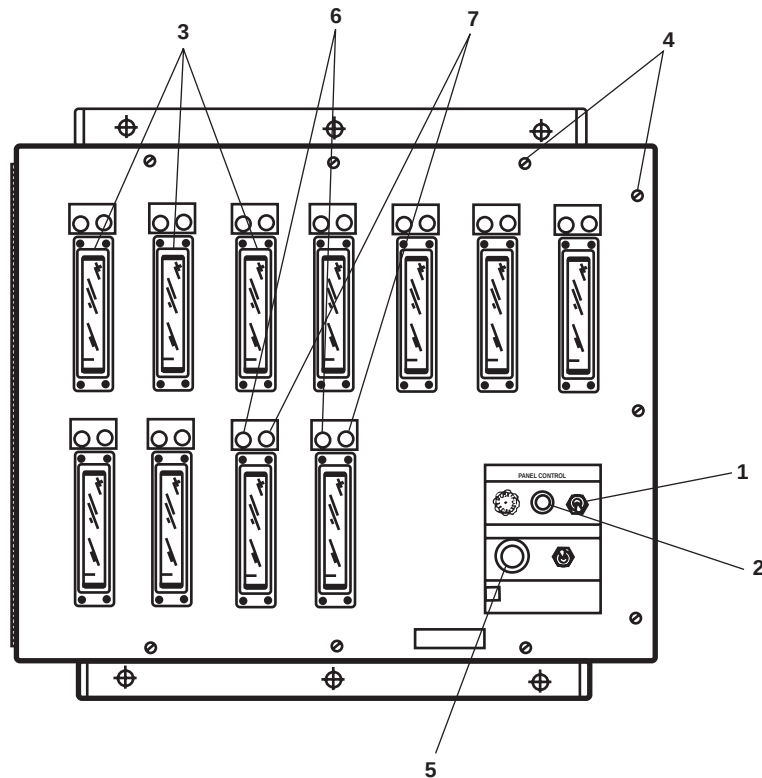
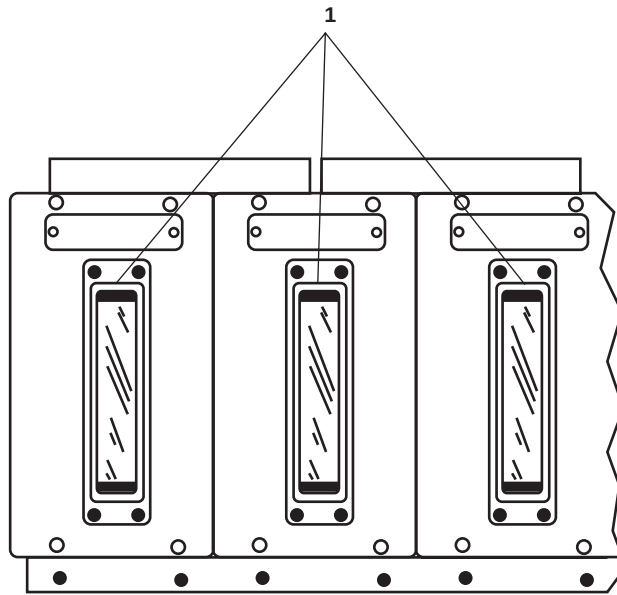
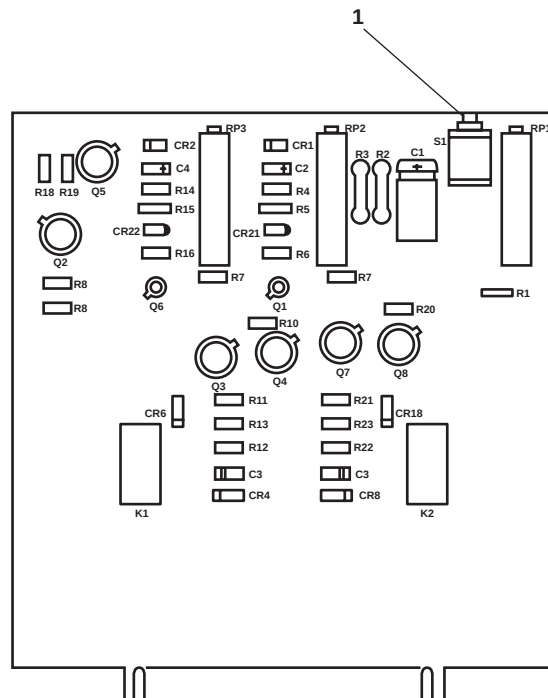

Figure 1. 11 Channel TLI Control Panel
Figure 3. TLI Remote Indicator
Figure 4. Control Module Circuit Card
1. Set to OFF the ON/OFF switches (figures 1 and 2, item 1) on the Tank Level Indicator (TLI) control panels in the EOS, and verify that the POWER lamps (figures 1 and 2, item 2) are out.
2. Verify that all fluid meters on the control panels (figures 1 and 2, item 3) and remote indicator panels (figure 3, item 1) deflect to 0.
3. Loosen the captive screws (figure 1 or 2, item 4) and open the front panel of the TLI control panel.
4. Set to ON the ON-OFF switches (figures 1 and 2, item 1) on the control panel. Verify that the POWER lamp (figures 1 and 2, item 2) illuminates.
5. To test each level indicator circuit in turn, press and hold the CALIBRATE pushbutton switch (figure 4, item 1) on each control module in the TLI.
6. While the CALIBRATE pushbutton switch (figure 4, item 1) is pressed, verify that the selected control panel fluid level meter (figures 1 and 2, item 3) and the associated remote indicator panel fluid level meter (figure 3, item 1) deflect to the full-scale position.
7. If the control module containing the CALIBRATE pushbutton switch (figure 4, item 1) being pressed contains a high-alarm circuit, verify that the ALARM horn sounds (figure 1, item 5) and the associated HIGH ALARM lamp illuminates (figure 1, item 6) when the fluid level meter (figures 1, item 3) is at full defection.
8. Release the selected CALIBRATE pushbutton switch (figure 4, item 1).